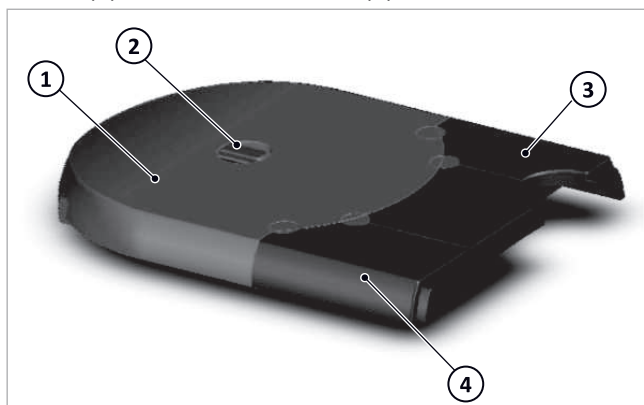
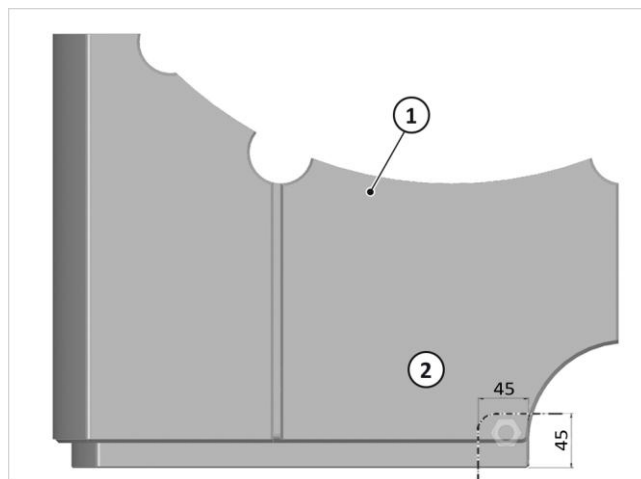

Fig. 124: Top SolvisBen insulation
Fig. 128: Cutting the inlet for the gas line if necessary
1. Take off the top insulation sections for the hot water station → fig. 124 (4) and heating circuit station → fig. 124 (3) from the top.
2. Take the tank insulation → fig. 124 (1) and carefully cut off the four foam plugs along the grooved slot (6) on the hot water station (5) using a sharp knife.
3. **Only with an integrated heating circuit station:** Cut off the plugs for the heating circuit station (7) along the slots (8).
4. Place the top tank insulation → fig. 124 (1) on the tank.
- On the left and right side (1)
- In the middle at the rear (2)
- In the middle at the front (3)
6. Attach the top insulation for the hot water station → fig. 124 (3).
7. When routing the gas line at the top, cut the top insulation for the hot water station (1, see also → fig. 124 (4)) as shown in → fig. 128 (or in the supplied template) before attaching it.
1. Completely install the assembled top insulation → fig. 124 (1+2+3+4) on the tank.